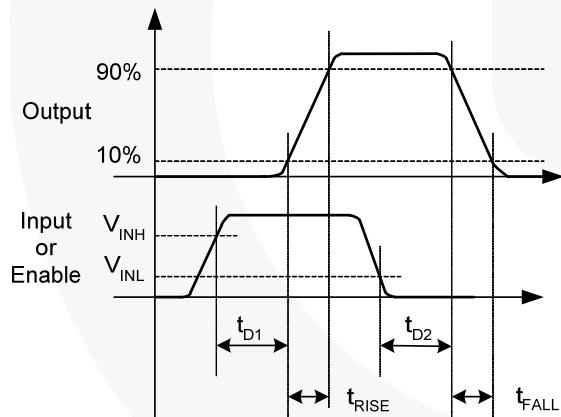
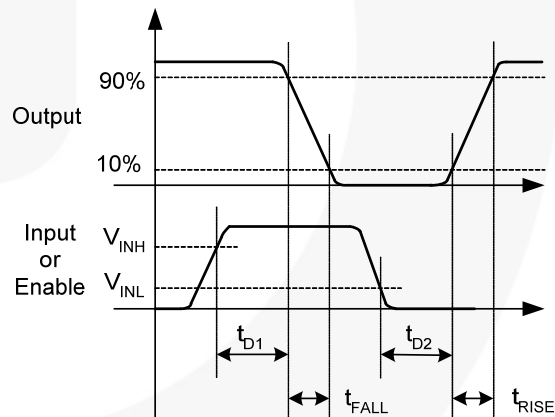

Figure 7. Non-Inverting
Figure 8. Inverting
10. See Timing Diagrams of Figure 7 and Figure 8.
- 12. See Timing Diagrams of Figure 7 and Figure 8.